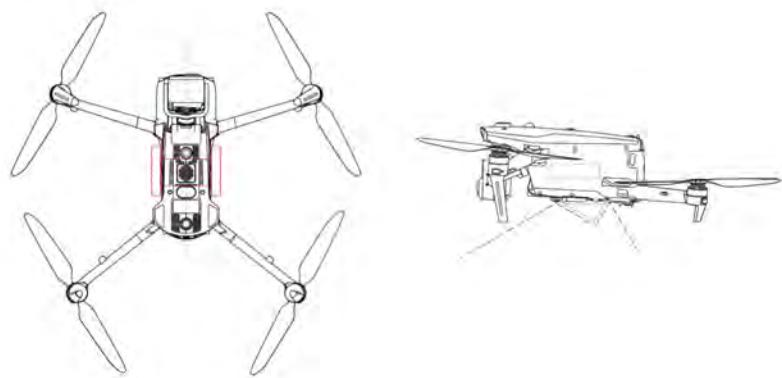
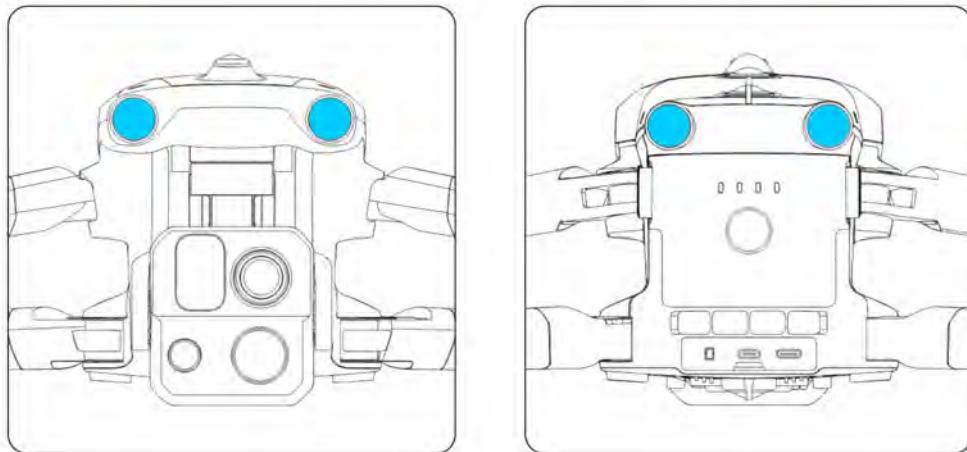

Fig 2-1 Mount gravity center and non-interference zone (circled by red line)
Fig 2-2 Front and rear visual obstacle avoidance lens modules of the aircraft
- When users are mounting payload, please ensure that the mounting point should be located at the center line of the aircraft and should not be beyond the area bracketed in the left picture in fig 2-1. Meanwhile, the size of the mounted payload, as circled in the right picture in fig 2-2, should not be too big to go beyond the non-interference zone.